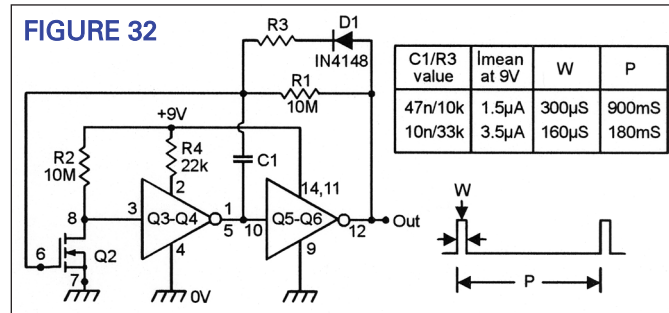

FIGURE 32
Finally, to complete this look at the 4007UB IC, Figure 32 shows how
■ FIGURE 32. THIS MICROPOWER VERSION OF THE 4007UB DUAL-TIME-CONSTANT ASTABLE CONSUMES ABSOLUTELY MINIMAL CURRENTS.